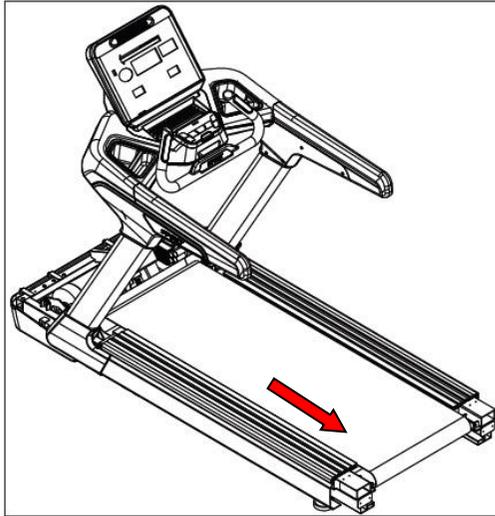

Figure 4.6.3
4.6.4 As shown in Figure 4.6.3, remove the left and right trims in the direction of the arrow.